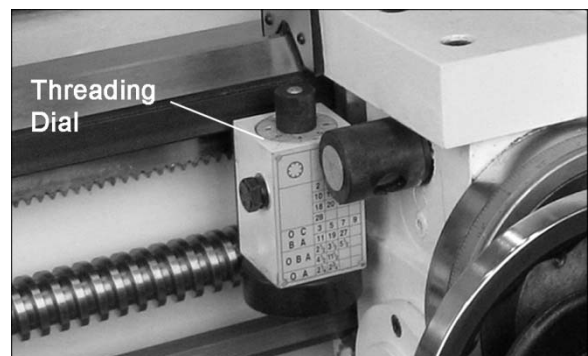

Figure 26
- Threading Dial (Figure 26):** Indicates the point on the leadscrew where the half nut can be re-engaged to continue inch threading.